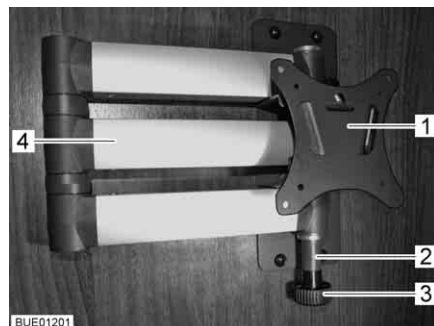

Fig. 89 Holder with jointed arm
- Pull the release knob (Fig. 89,3). The jointed arm (Fig. 89,4) is unlocked.
- Turn the flat screen back into the original position until the holder (Fig. 89,1) engages in the lock (Fig. 89,2).